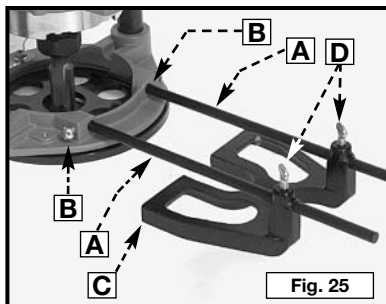

Fig. 25
To attach, insert guide rods (A) in holes in base Fig. 25, and secure with screws (B). The guide (C) is adjusted on the rods and secured the desired position with thumb screws (D).